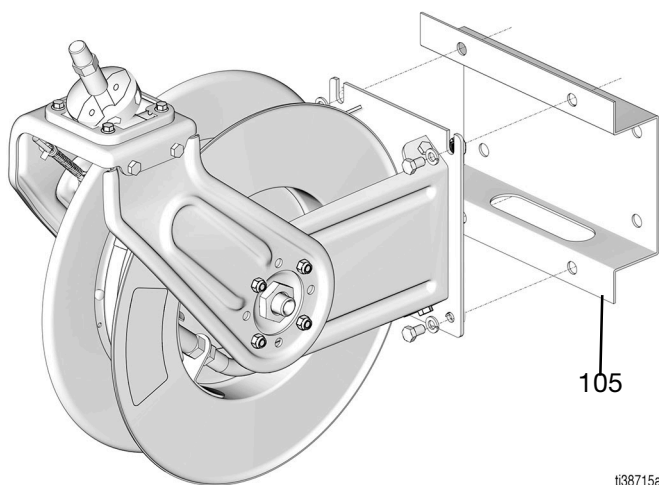

FIG. 14
- For mounting with kits 24A219-24A222, mount the channel (105) to the wall, then mount the hose reel to the channel (105) (FIG. 14).